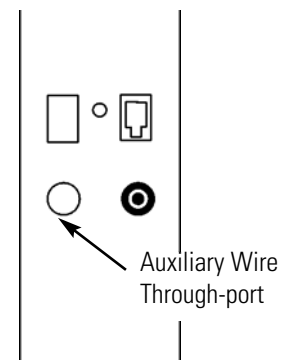

Figure 9-5. Through-port
5. Feed the wires through the auxiliary wire through-port (Figure 9-5) on the back panel. This port is a circular fitting adjacent to the remote